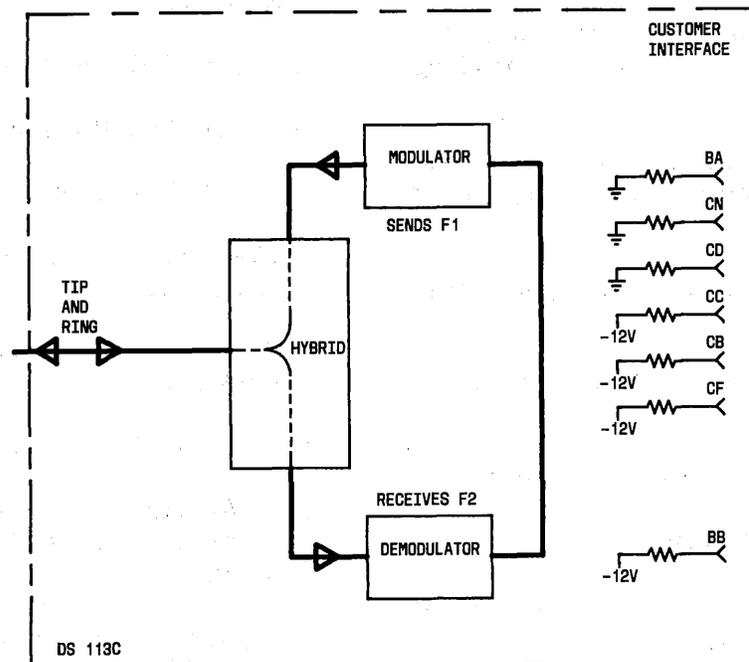

Fig. 4—Digital Loopback Test Mode—Simplified Block Diagram
2.11 Entering the digital loopback test mode (Fig. 4) causes the data set internally to loop BB (receive data) to BA (send data) and simulate an **on** condition of the CD (data terminal ready) circuit. In addition, this causes the following to occur: